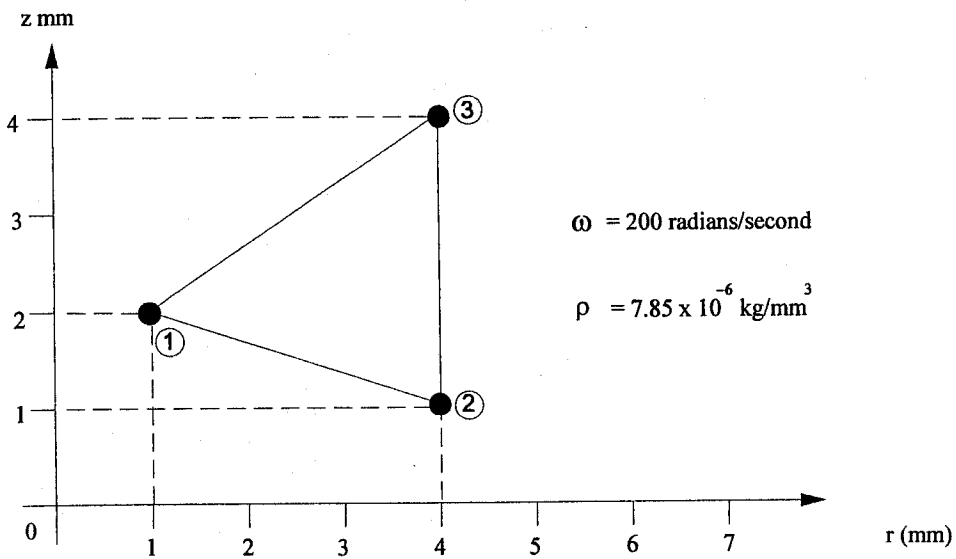

Figure 3
3. Compute the nodal loads on the axisymmetric triangular element shown in Figure 3 for the case of centrifugal loading given by $\rho\omega^2 r$ where ω is the rotational speed about the z axis and ρ is the mass density. You may take $r = \bar{r}$, the centroidal value, when developing the expression for the nodal loads. (20)